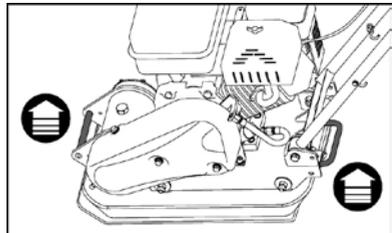

Fig. 12
3. Lift the unit by the handles on the front and back of the frame (Fig. 12). Do not hold the plate compactor by the handle while loading as it may swing open and cause an impact injury.